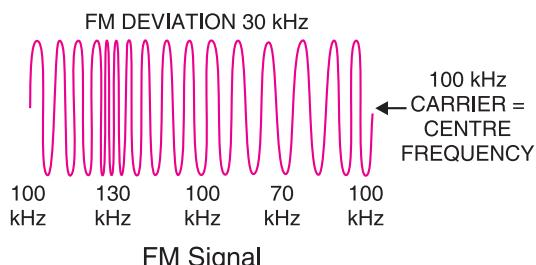

Fig. 16.13
Illustration. The process of frequency modulation (FM) can be made more illustrative if we consider numerical values. Fig. 16.13 shows the FM signal having carrier frequency $f_c = 100 \text{ kHz}$. Note that FM signal has constant amplitude but varying frequencies above and below the carrier frequency of $100 \text{ kHz} (= f_c)$. For this reason, $f_c (= 100 \text{ kHz})$ is called **centre frequency**. The changes in the carrier frequency are produced by the audio-modulating signal. The amount of change in frequency from $f_c (= 100 \text{ kHz})$ or **frequency deviation** depends upon the amplitude of the audio-modulating signal. The frequency deviation increases with the increase in the modulating signal and vice-versa. Thus the peak audio voltage will produce maximum frequency deviation. Referring to Fig. 16.13, the centre frequency is 100 kHz and the maximum frequency deviation is 30 kHz . The following points about frequency modulation (FM) may be noted carefully :